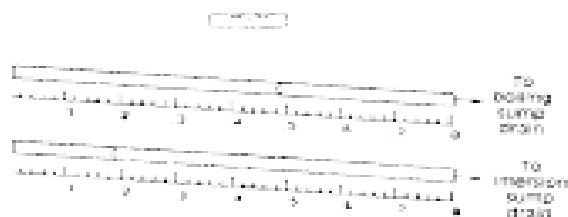

Figure 307-1. Inclined Liquid Level Indicator Apparatus.
2.1 Inclined Liquid Level Indicator. A schematic of the inclined liquid level indicators used in this method is shown in figure 307-1; two inclined liquid level indicators having 0.05 centimeters divisions or smaller shall be used. The liquid level indicators shall be made of glass, Teflon, or any similar material that will not react with the solvent being used. A 6-inch by 1-inch slope is recommended; however the slope may vary depending on the size and design of the solvent cleaning machine.